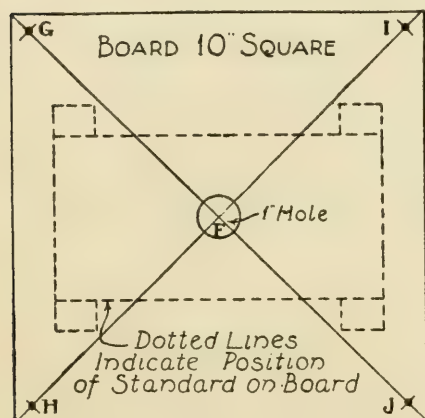

FIG. 258. — Plan of Top of Standard for Merry-go-round.
**To make the Standard** for the merry-go-round, cut four strips of wood 8 inches long, and fasten one to each corner of the cigar box, turning the bottom side of the box up; then cut a piece of  $\frac{1}{2}$ -inch board 10 inches square, locate its center *F* by drawing diagonal lines from corner to corner as shown in Fig. 258, bore a 1-inch hole through it at this point for spool *D* (Fig. 254), and then nail the box to the center of the board as shown in Fig. 258.
edge of *KL* and the upper edge of *ML* with glue, lap *KL* over to about *NL*, and rub down the edges with a cloth to make as neat a joint between the pieces as possible (Fig. 260). Bore a hole through each corner of the standard top (*G*, *H*, *I*, and *J*, Fig. 258), then cut four